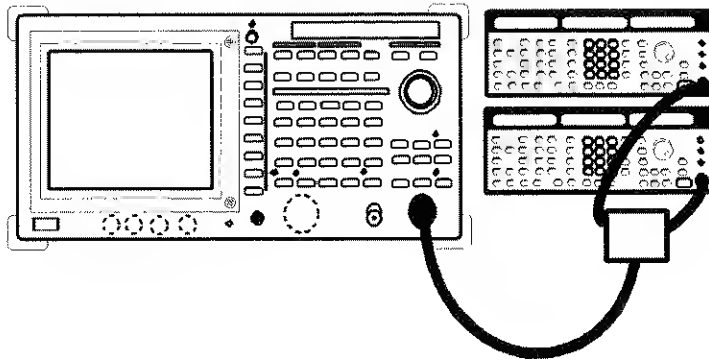

Figure 2-63 Setup to Measure Dual Parameters
1. Connect the unit under test as shown in Figure 2-63.